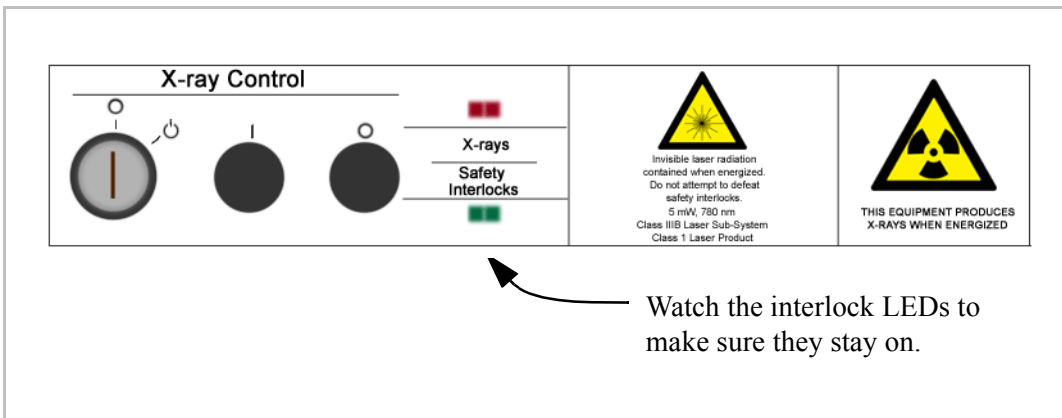

Figure 13 Operator Control Panel
- f. From the Operator Control Panel (Figure 13 on page 26) turn the X-Ray Enable Key to **Enable**, then push the X-Ray **On** Button.